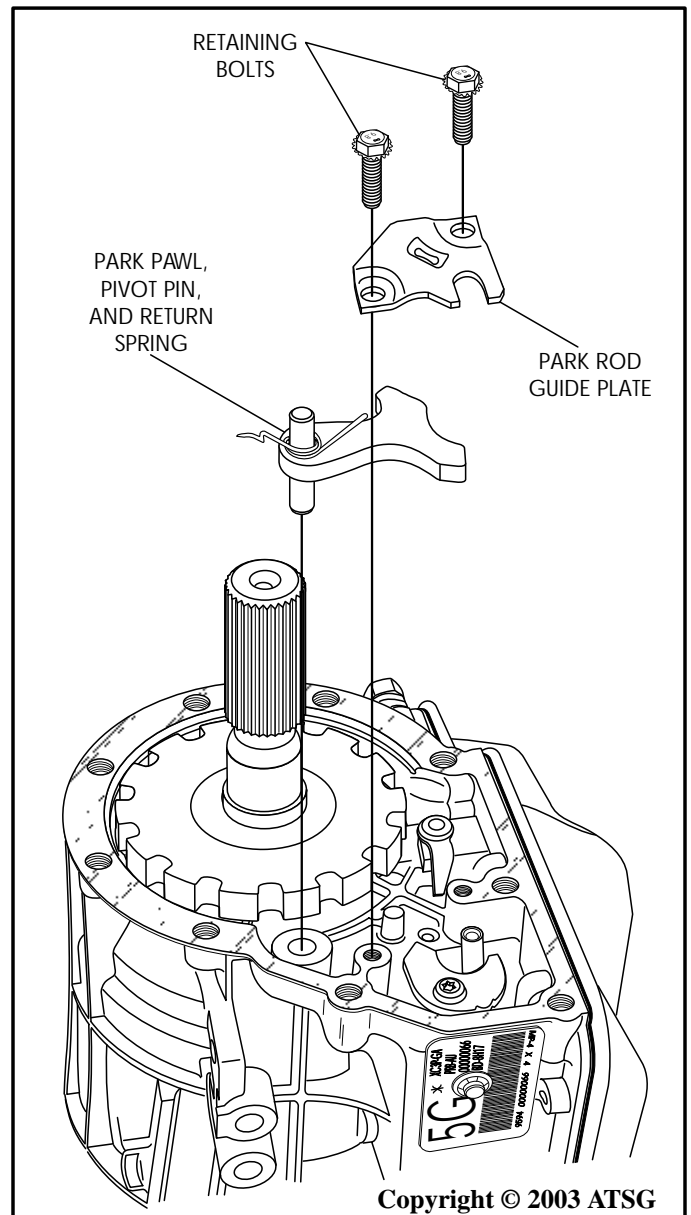

Figure 76
35. Remove the park rod guide plate, parking pawl, park pawl pivot pin and return spring, as shown in Figure 76.